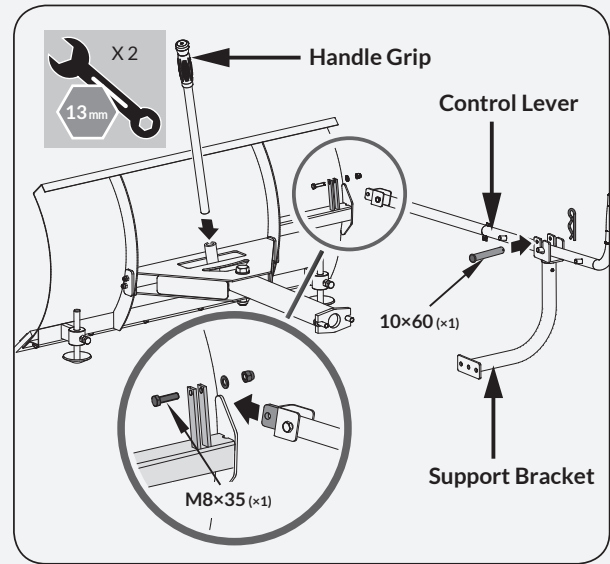

**Figure 8c**
- Insert the shorter control lever into the longer lever. Align holes and fasten with M8×40 hex bolt, washers and nut. (See **Figure 8c**)